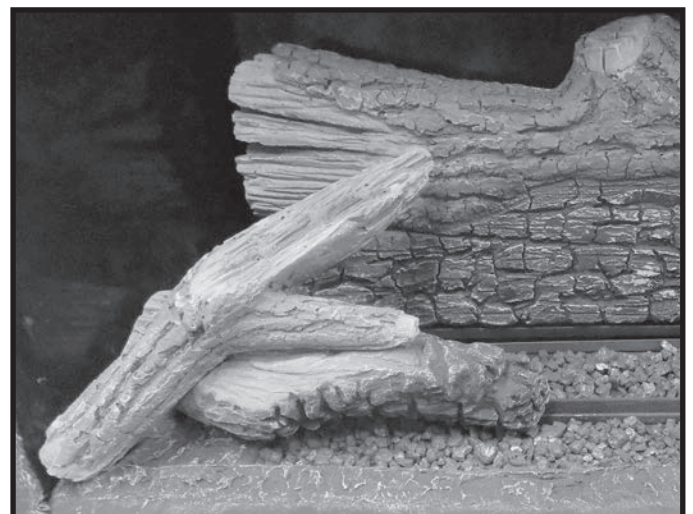

Figure 78: 3rd log position.
11. Place log number three (Figure 57) so that the post protruding from the bottom of the log can be inserted into the hole of the left-hand base piece. Then position the front of the log so that it rests on top of the front base piece (Figure 78). The front of the log should be very close, or just touching the front base piece.